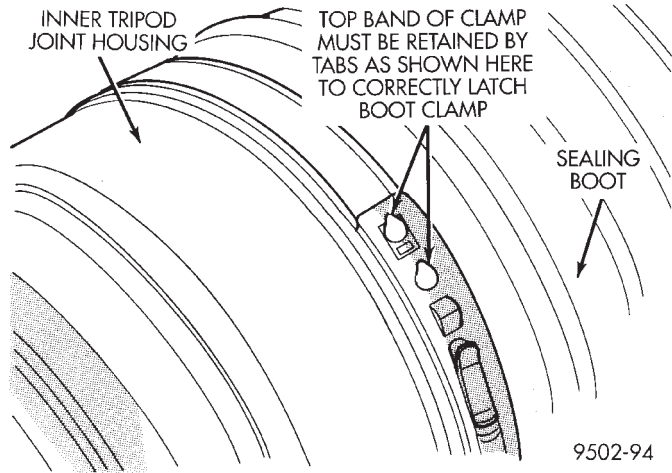

Fig. 41 Sealing Boot Clamp Correctly Installed
- Squeeze tool together until top band of clamp is latched behind the two tabs on lower band of clamp (Fig. 41).